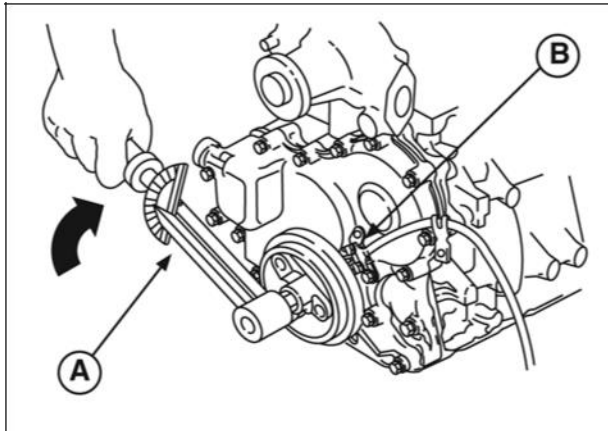

Figure 19
10. Install timing gear cover with new gasket. Note position, length, and number of screws (Figure 19). Torque screws to values listed in Section 14 - Engine Specifications.
- M6 x 2.5 in. (M6 x 65 mm): 2 (A)
- M6 x 2.1 in. (M6 x 55 mm): 3 (B)
- M6 x 1.1 in. (M6 x 30 mm): 7 (C)
- M6 Nut: 2 (D)
11. Install crankshaft pulley with timing mark at 12 o'clock position (No. 1 cylinder) (Figure 19).